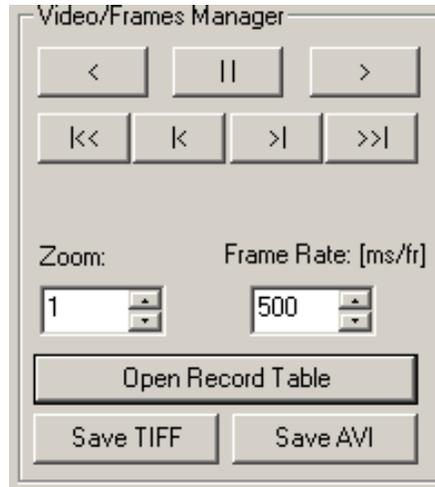

Figure 3: Video/Frame Manager controls
FastViewer provides Video/Frame controls to enable the user to view the images that were stored in the system memory and to save them as a collection of TIFF files or as an AVI movie file. The user can also determine the frame rate and the “zoom in” and “zoom out” scale. Figure 3 and Table 2 present all the Video/Frame Manager controls
b) Triggered Grabbing (see Figure 3)